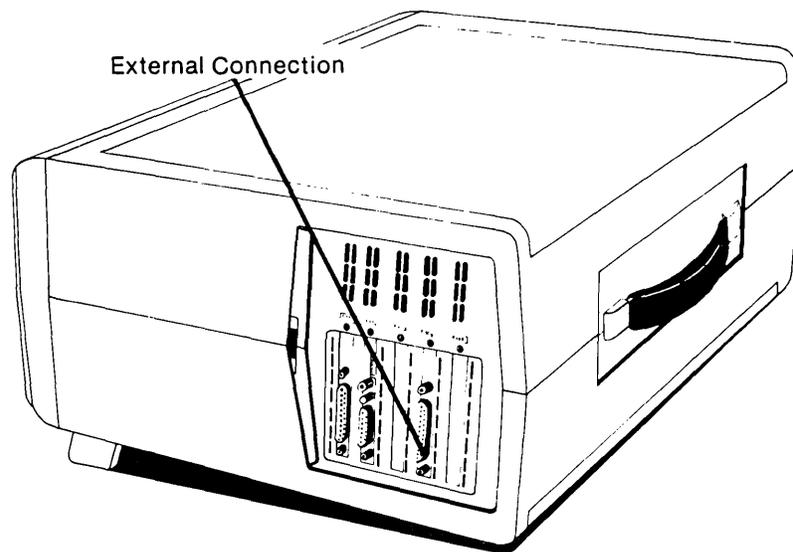

Figure 11-10. Connections for External Options.
4. Disconnect any external options attached to the computer (see Figure 11-10).